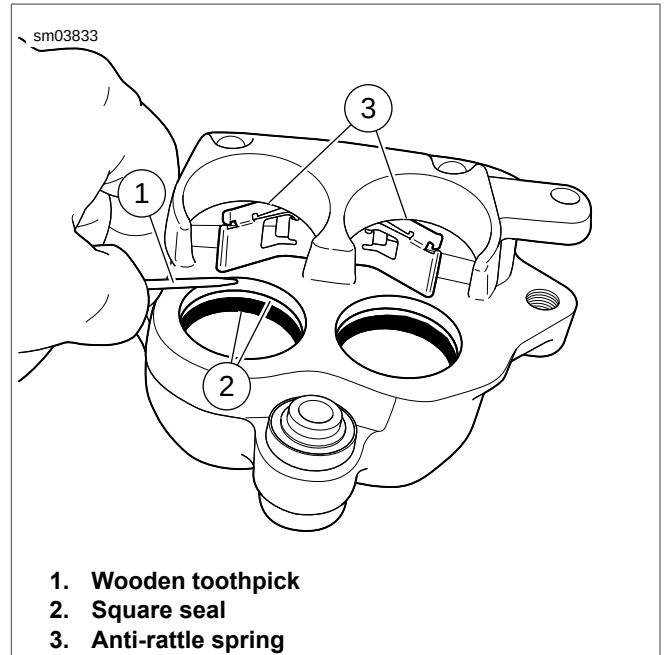

Figure 2-67. Seals and Spring
5. See Figure 2-67. Using a wooden toothpick (1), remove two square seals (2) from each caliper bore. Discard all removed parts.
6. Pull anti-rattle spring (3) straight out to remove.
2. See Figure 2-67. Install two **new** square seals (2) into each piston bore. Use a wooden toothpick (1) to aid installation if needed.
3. Install anti-rattle spring (3). Verify it is oriented correctly.